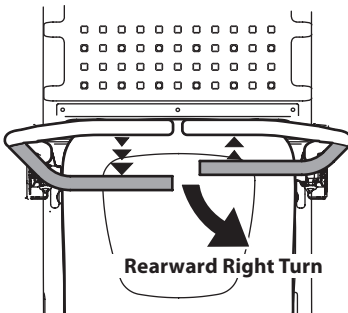

Figure 27
2. To turn to the right while traveling in reverse, move the right drive control lever forward of the left drive control lever (Figure 27).